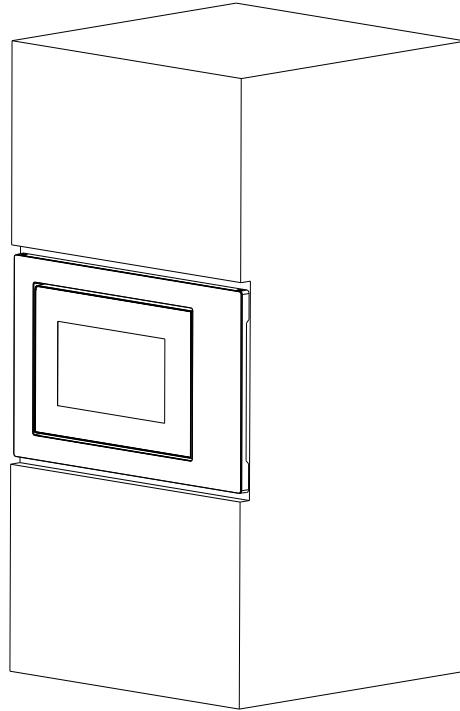

Fig. 2
- b) Push the microwave oven till to the end. (Fig. 2)